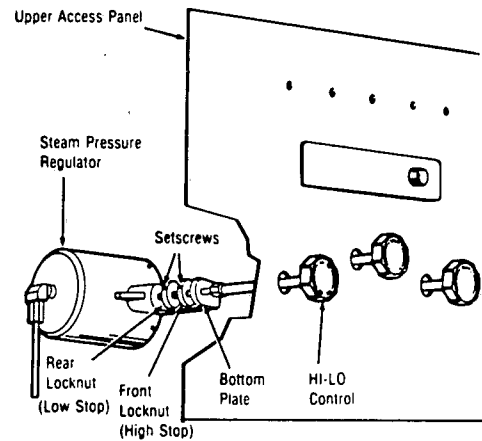

Figure 5-6. ADJUSTING PRESSURE REGULATOR.
1. Adjust steam pressure regulator to control jacket pressure at 20 psig. After adjustment is made, lock low stop. See Figure 5-6.